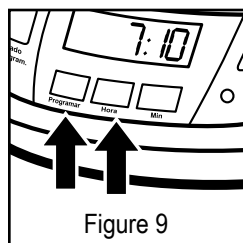

Figure 9
2. While pressing and holding the SET DELAY button, press and hold the HOUR button until the clock displays the hour you desire. The PM indicator will light to indicate a PM time; if the PM indicator is not lit, the time is AM. See Figure 9.